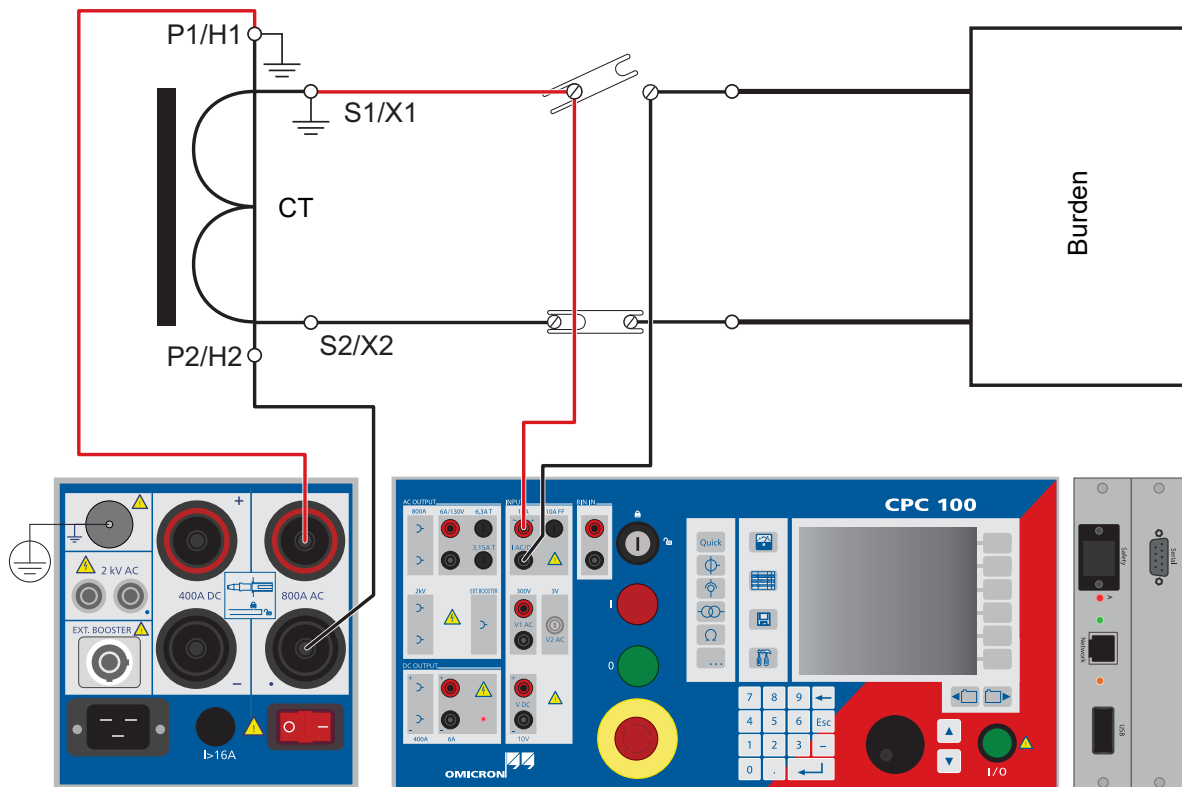

Figure 4-2: Setup of testing ratio, polarity (and burden) with injection to current input
1. by leading it directly via the 10A current input **I AC** (refer to Figure 4-2 on page 79), and let the *CPC 100* measure it.